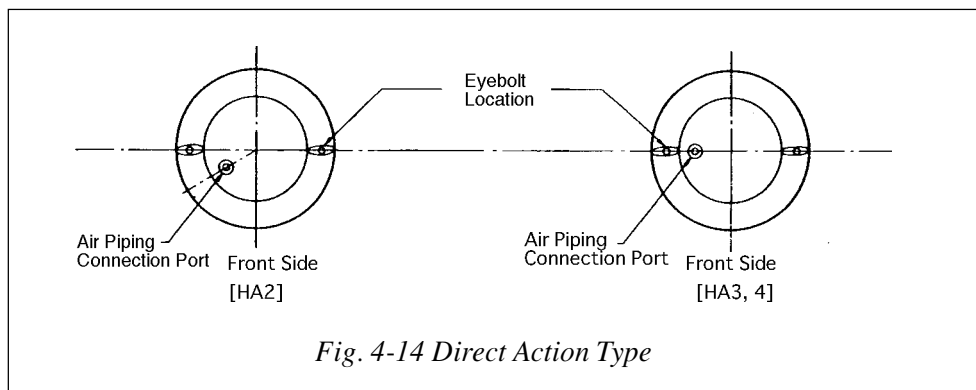

Fig. 4-14 Direct Action Type
- (3) Insert the actuator rod (to which the diaphragm is connected) into the bushing, exercising care not to damage the bushing inside surface or dust seal with the threaded section of the rod. (For example, cover the threaded section with adhesive tape to prevent damaging the bushing.) Set the stopper in parallel with the yoke.
- (4) Place the top diaphragm case and fix it with the pair of eyebolts.
- Set the air piping connection port in the location shown in the illustration. (Fig. 4-14)